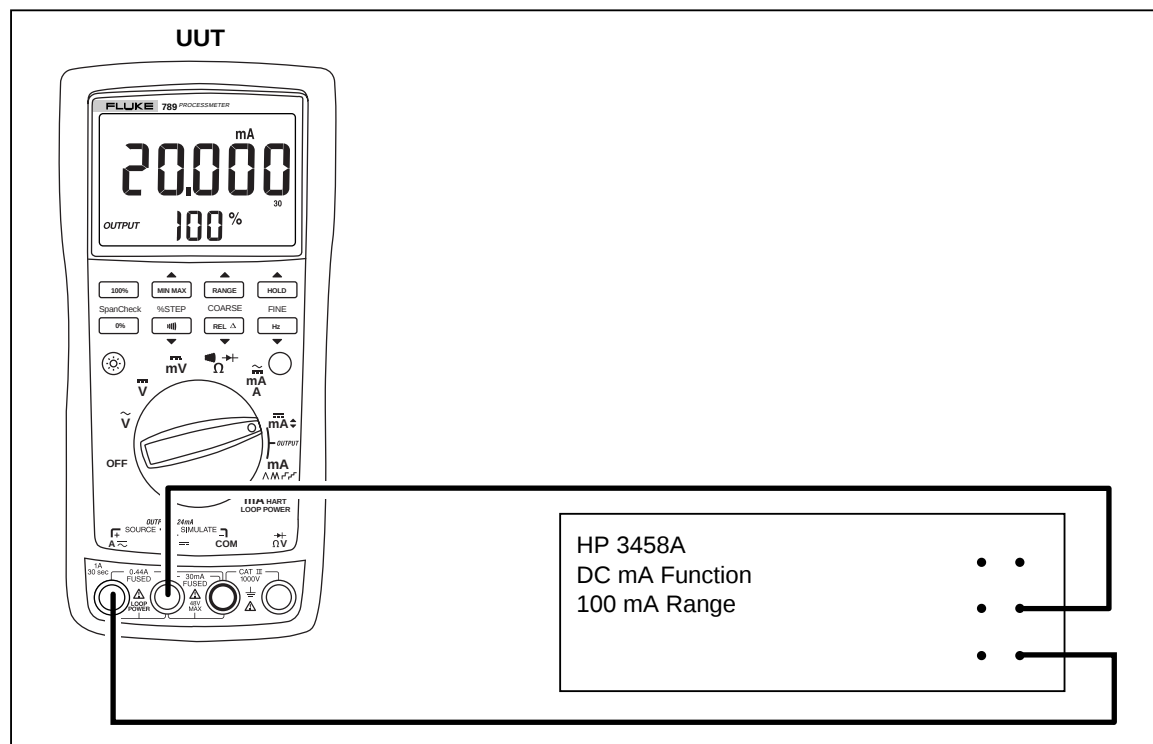

Figure 3. Current Sourcing Connections Using the HP 3458A
2. Connect the **SOURCE + (A $\sim$)** and **– (mA $\overline{\sim}$)** terminals on the UUT to the current terminals on the multimeter as shown in Figure 3.